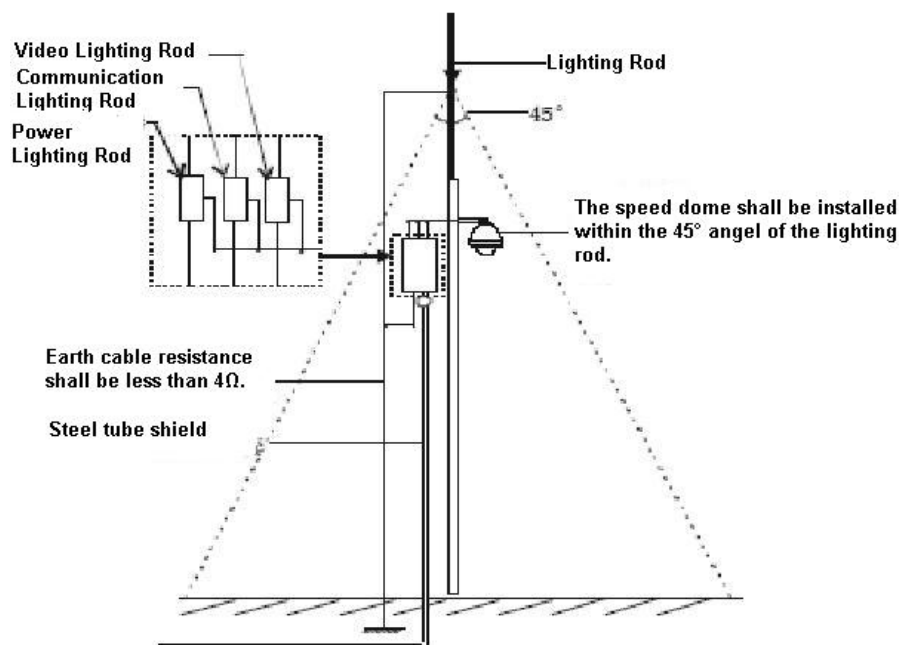

Figure 7-1
- System shall adopt equal-potential wiring. The earth device shall meet anti-jamming and at the same time conforms to your local electrical safety code. The earth device shall not short circuit to N (neutral) line of high voltage power grid or mixed with other wires. When connect the system to the earth alone, the earth resistance shall not be more than $4\ \Omega$ and earth cable cross-sectional area shall below $25\ \text{mm}^2$. See Figure 7-1.